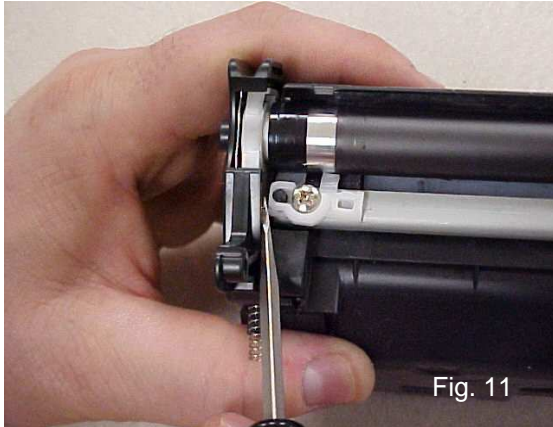

Fig. 11
9. Fig. 11 shows an OEM HP 1320 toner hopper. Disassemble the OEM left and right end caps and discard. Disassemble the Mag Roller and bushings, Mag Roller Wiper Blades, and Doctor Blade. Thoroughly clean all the components and reassemble referencing Oasis HP 1320 Cartridge Remanufacturing Instructions.